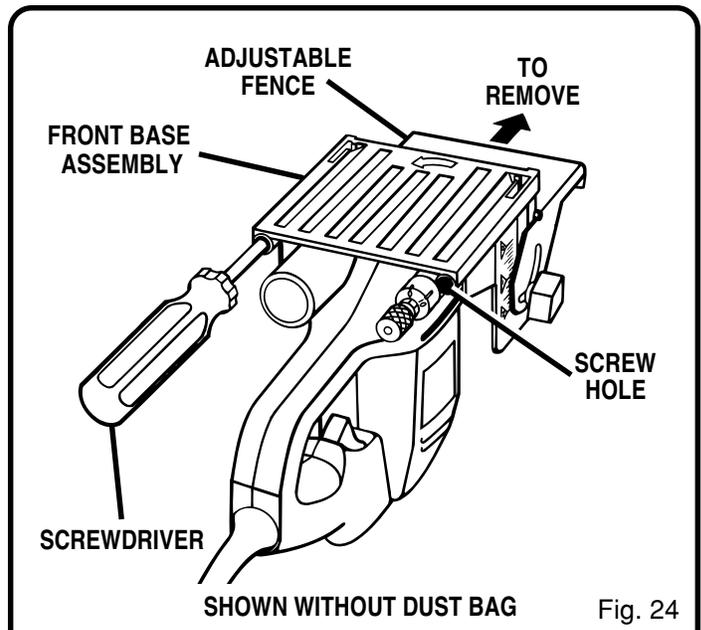

Fig. 24
3. Place your plate joiner upside down on a workbench as shown in figure 24.
5. Pull adjustable fence in the direction shown by the arrow in figure 24 and remove front base assembly.
NOTE: Saw teeth point toward the right of the saw when held in normal operating position. The direction of rotation is marked on the saw blade. An arrow on the bottom of the front base assembly also indicates direction of rotation. See Figure 24.